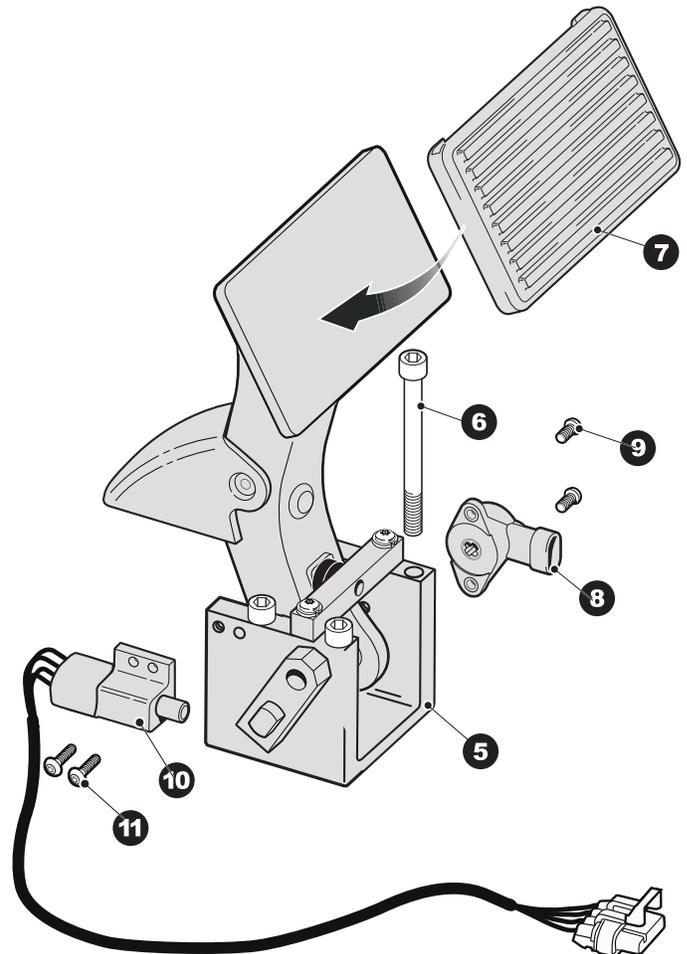

Fig. 5 Brake Pedal
| Fig. 5 Brake Pedal..... | J - 2 |
3. Mark the position of the retaining nut (12) on the threaded portion of the pedal return spring rod.
4. Loosen the retaining nut (12) to release the spring tension.
5. Disconnect the brake pedal return spring (2) by removing the E-ring (3) and the clevis pin (1).
6. Remove four socket head hex screws (6) securing the brake pedal assembly to the floorboard. (Ref Fig. 5)
7. Disconnect the wires from the rotary position sensor (8) and the brake enable switch (9).
8. Remove the two Torx screws (6) from the rotary position sensor (7) and remove sensor.
9. Remove the two Socket head cap screws (11) from the throttle enable switch (10) and remove the switch.
10. Align the slot in the rotary position sensor (8) to the pivot shaft and rotate into position oriented as shown, secure with two Torx screws (9). Use Loctite® 242, according to product instructions, with the two Torx screws (8).
| Fig. 5 Run/Tow Switch..... | K - 3 |